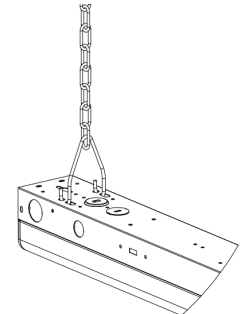

Figure 5
- Attach V-hanger to the appropriate holes in the back of the fixture (Figure 5).